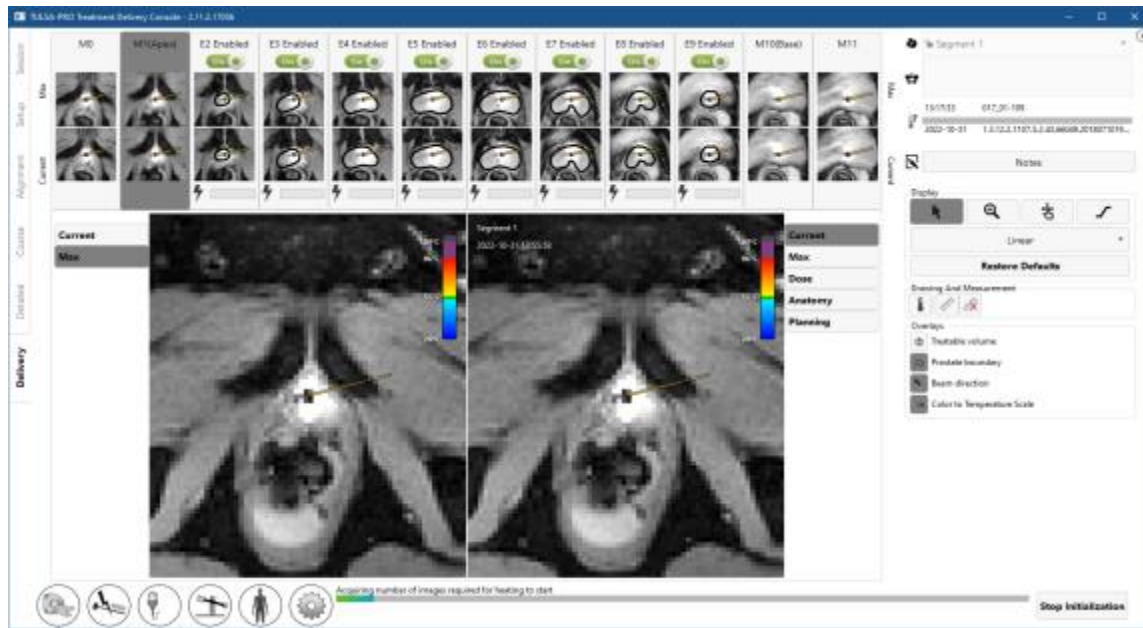

Figure 43: Treatment Initialization state
3. **Radiologist:** Click **Start treatment** on TDC. It will prompt you to verify the core body temperature using an external temperature measurement device before proceeding. Enter the temperature in degrees Celsius and click **Confirm**. The TDC will go into **Treatment Initialization** state and is now ready to receive thermometry images (*Figure 43*).